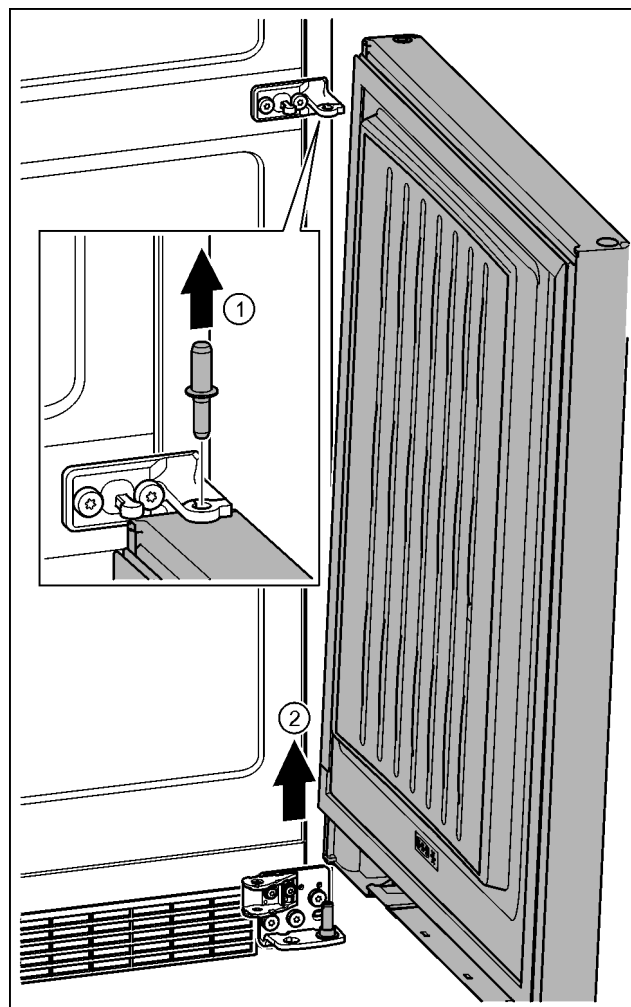

Fig. 22
- Pull out the bolts towards the top. Fig. 22 (1)
- Swing the door out, pull it upwards and set it aside. Fig. 22 (2)